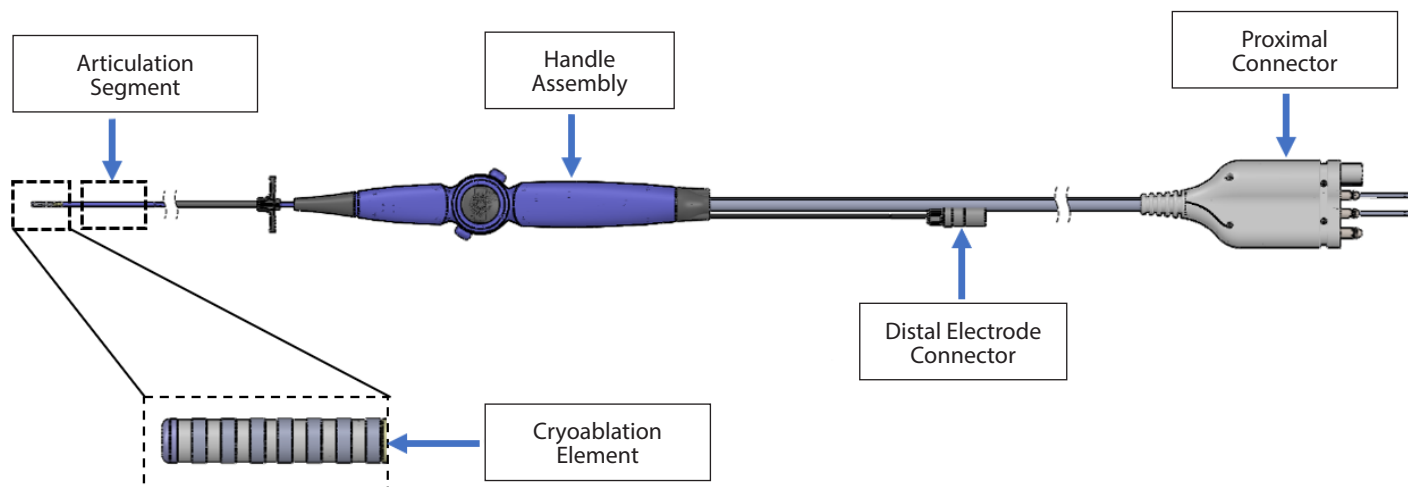

Figure 1: vCLAS™ Cryoablation Catheter
The Catheter connects to the Cryoablation Console via Proximal Connector (**Figure 1**) and Console's Connection Port, creating a closed loop that circulates cryogenic near-critical nitrogen (CN2) from the Console to the 15 mm long Cryoablation Element of the Catheter. This enables the Cryoablation Element to reach cryogenic temperatures and to create therapeutic, transmural linear and focal lesions. The Cryoablation Element temperature is continuously monitored by two internal thermocouples and displayed on the Cryoablation Console.
The Cryoablation (Freezing) Element of the Catheter contains eight (8) 1 mm electrodes distributed evenly with 1 mm spacing (**Figure 1**). The electrodes provide EGM recording and pacing capability when no ice formation is present. The EGM monitoring and pacing are accomplished via standalone Electrophysiology (EP) Recording System. The EP Recording System is a standalone medical device used for recording and monitoring of electrocardiograms (ECG) to map and diagnose ventricular tachycardia. The Catheter connects to the EP recording system via Distal Electrode Connector and standard adapter cable. The EP Recording systems use universal junction box and adapter cables. The Catheter is compatible with any junction box of commercially available EP Recording Systems.
The distal portion of the Catheter (**Figure 1**, Articulation Segment) supports bi-directional deflection of Cryoablation Element by 180°, as controlled by the actuator and turning knob within Catheter's Handle Assembly. The turning knob adjusts the resistance of the deflection up to positional lock at any desired deflection angle.